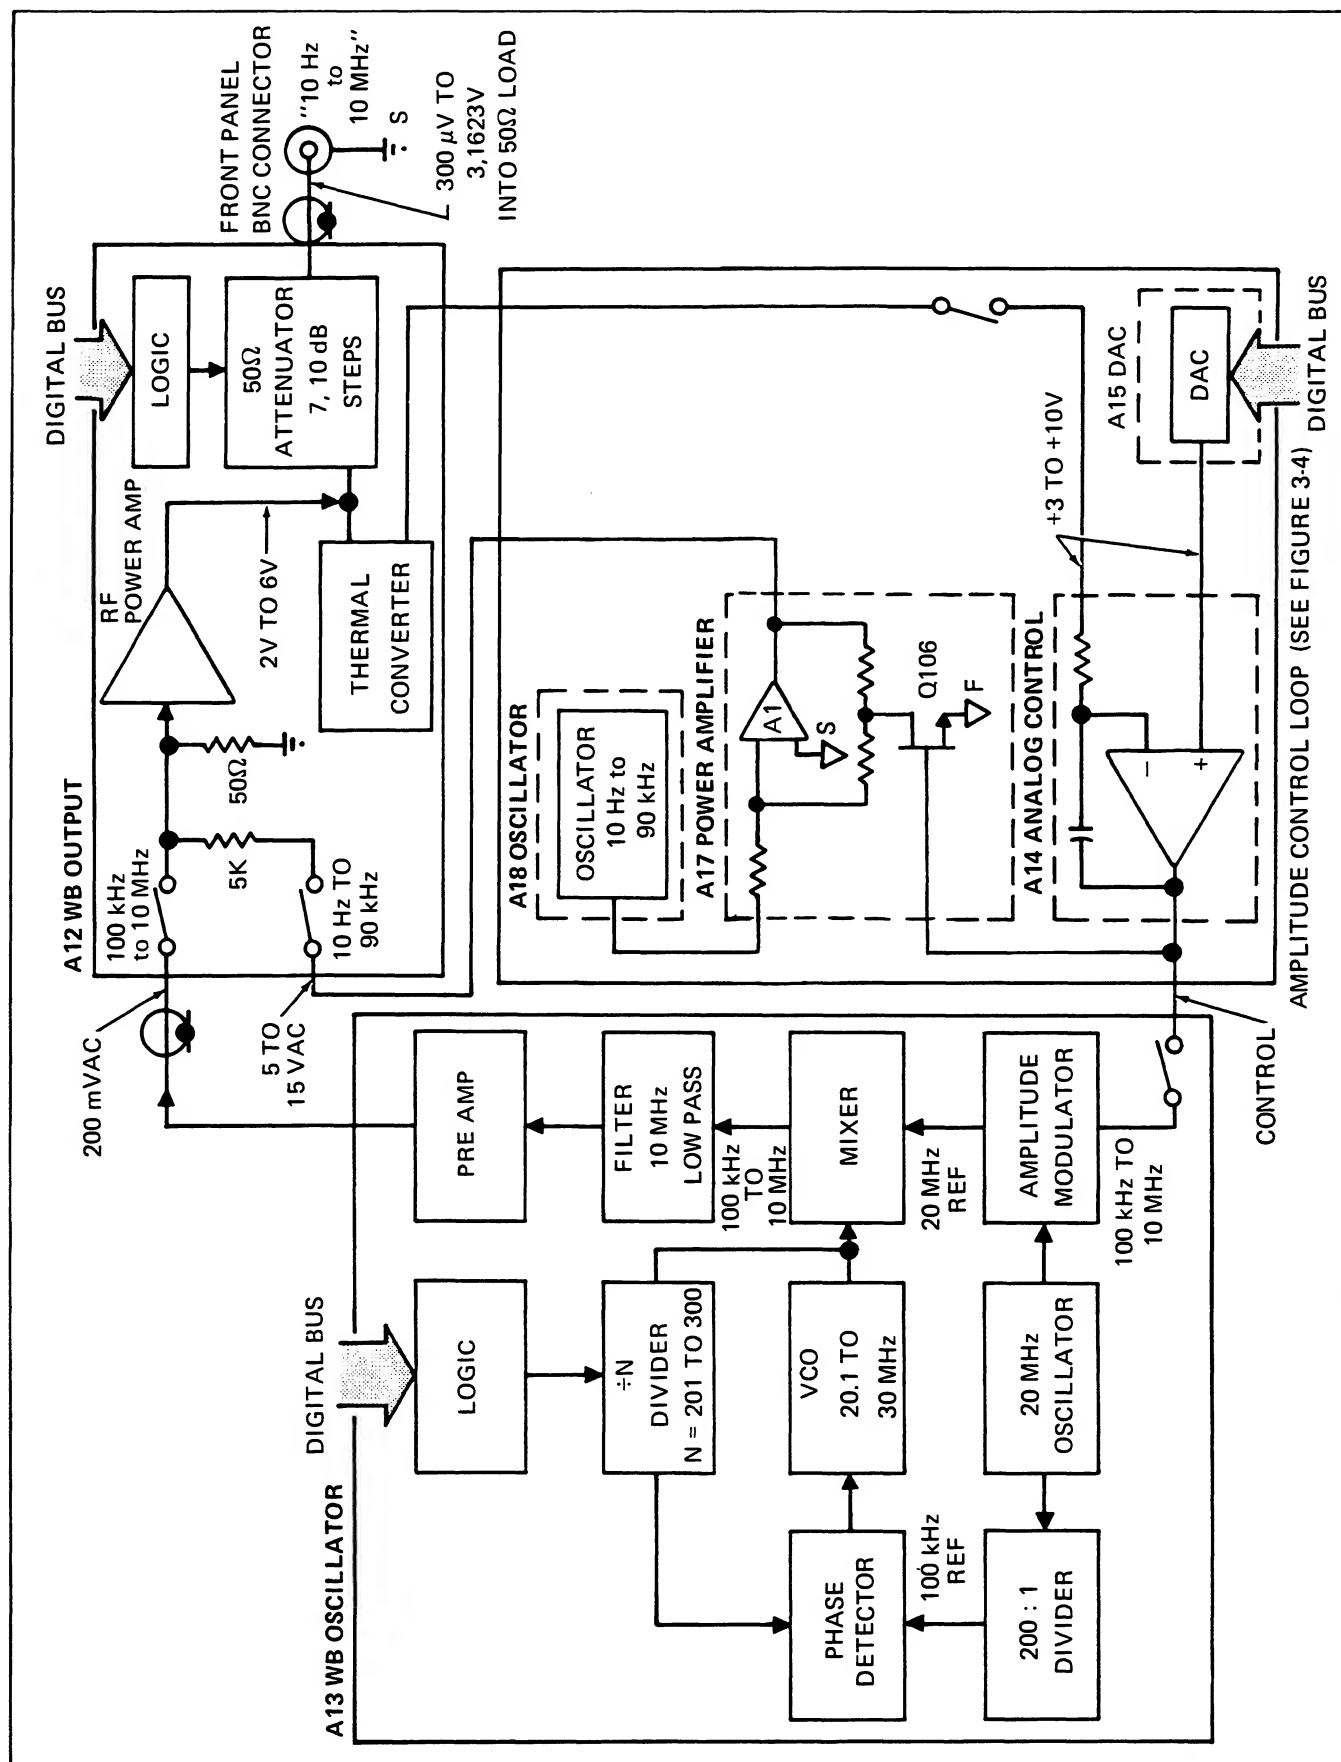

Figure 603-1. WB Option Block Diagram
603-15. The wideband option, as shown in Figure 603-1, is a wideband (WB) generator which uses the WB Oscillator and WB Output Amplifier PCBs of the option plus various sections of the standard calibrator. The overall block, and each component block, is described in the following paragraphs.